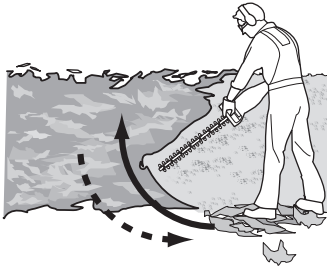

Fig. 5
1. Make sure that the blade cover (11) is removed.
4. Always hold the product firmly with both hands on front handle (4) and rear handle (6). Never operate this product using only one hand.
6. First cutting both sides from the bottom upwards to the top. This will prevent any of the cuttings falling into the path of the area still to be cut (Fig. 5).